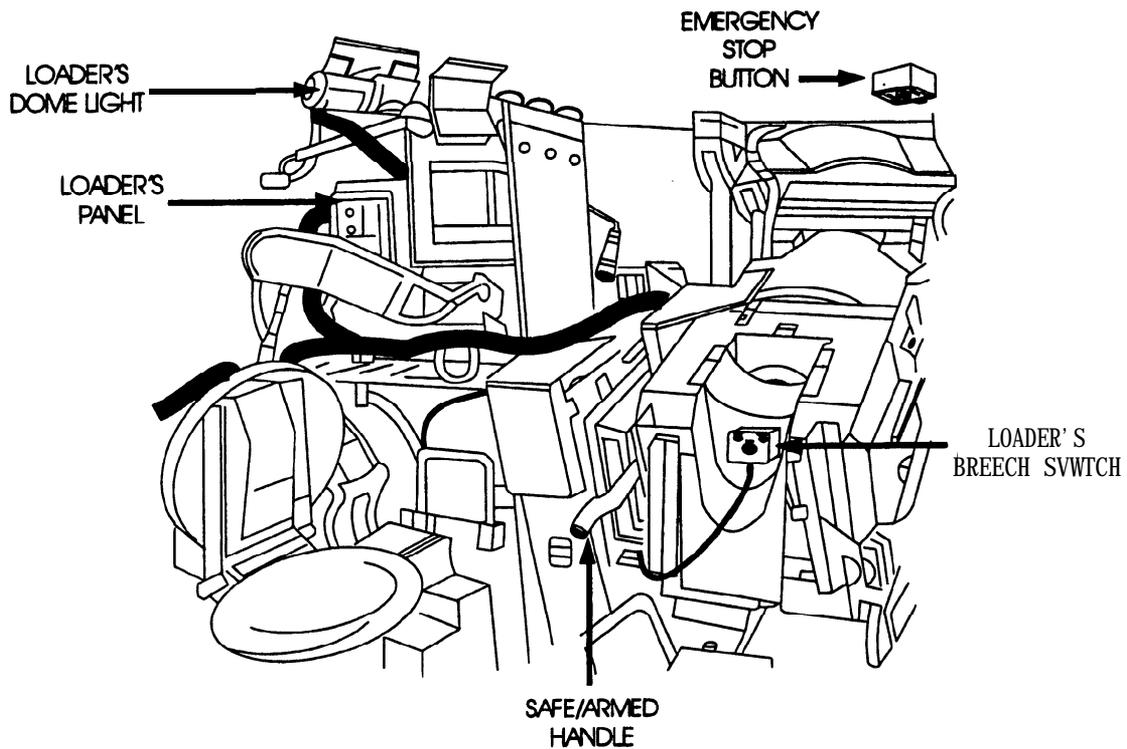

Figure 2-22. SAFE/ARMED Handle (M1A1)
2.3.4.1 Ejection Guard (M1) or SAFE/ARMED Handle (M1A1).sitions of the SAFE/ARMED Handle in the M1A1 tank, shown in Figure 2-22, and the Ejection Guard in the M1 tanks, shown in Figure 2- 23, are sensed. .